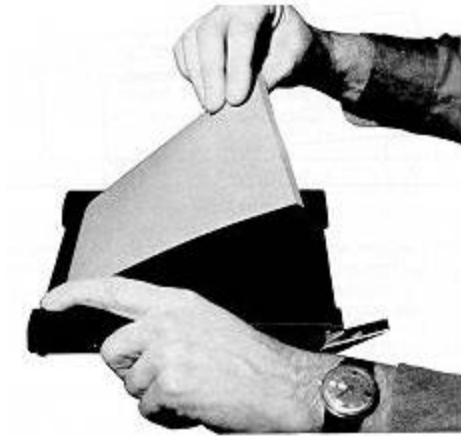

Figure 10
5. **Insert one end** of the abrasive sheet, about 1/2-inch, into the gap between the left roller and the end of the block, as shown in Figure 10. Rotate the left roller lever clockwise until the roller lightly clamps the film.
6. **Fold downward** about 1/2-inch of the free end of the sheet and insert the end into the other roller gap as shown in Figure 10 and Figure 11. With both rollers loosened, place one hand on the sheet and slide it about until it is centered on the block, then depress both lever ends simultaneously as shown in Figure 12, until the lever tips are resting on their pin stops. The lapping film should now be smooth and tight.